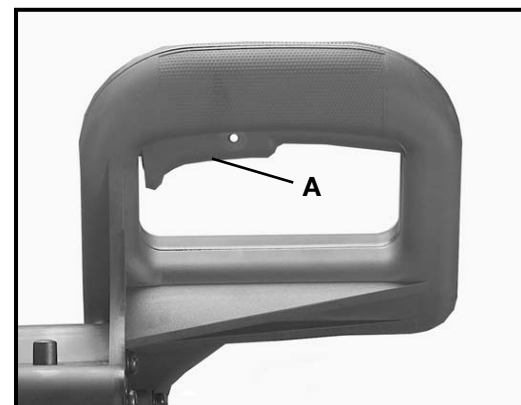

Fig. 10
To start the machine, depress switch trigger (A) Fig. 10. To stop the machine, release the switch trigger.
This saw is equipped with an automatic electric blade brake. As soon as the switch trigger (A) Fig. 10, is released, the electric brake is activated and stops the blade in seconds.
**WARNING: A TURNING SAW BLADE CAN BE DANGEROUS. AFTER COMPLETING CUT, RELEASE SWITCH TRIGGER (A) FIG. 10, TO ACTIVATE BLADE BRAKE. KEEP CUTTINGHEAD DOWN UNTIL BLADE HAS COME TO A COMPLETE STOP.**